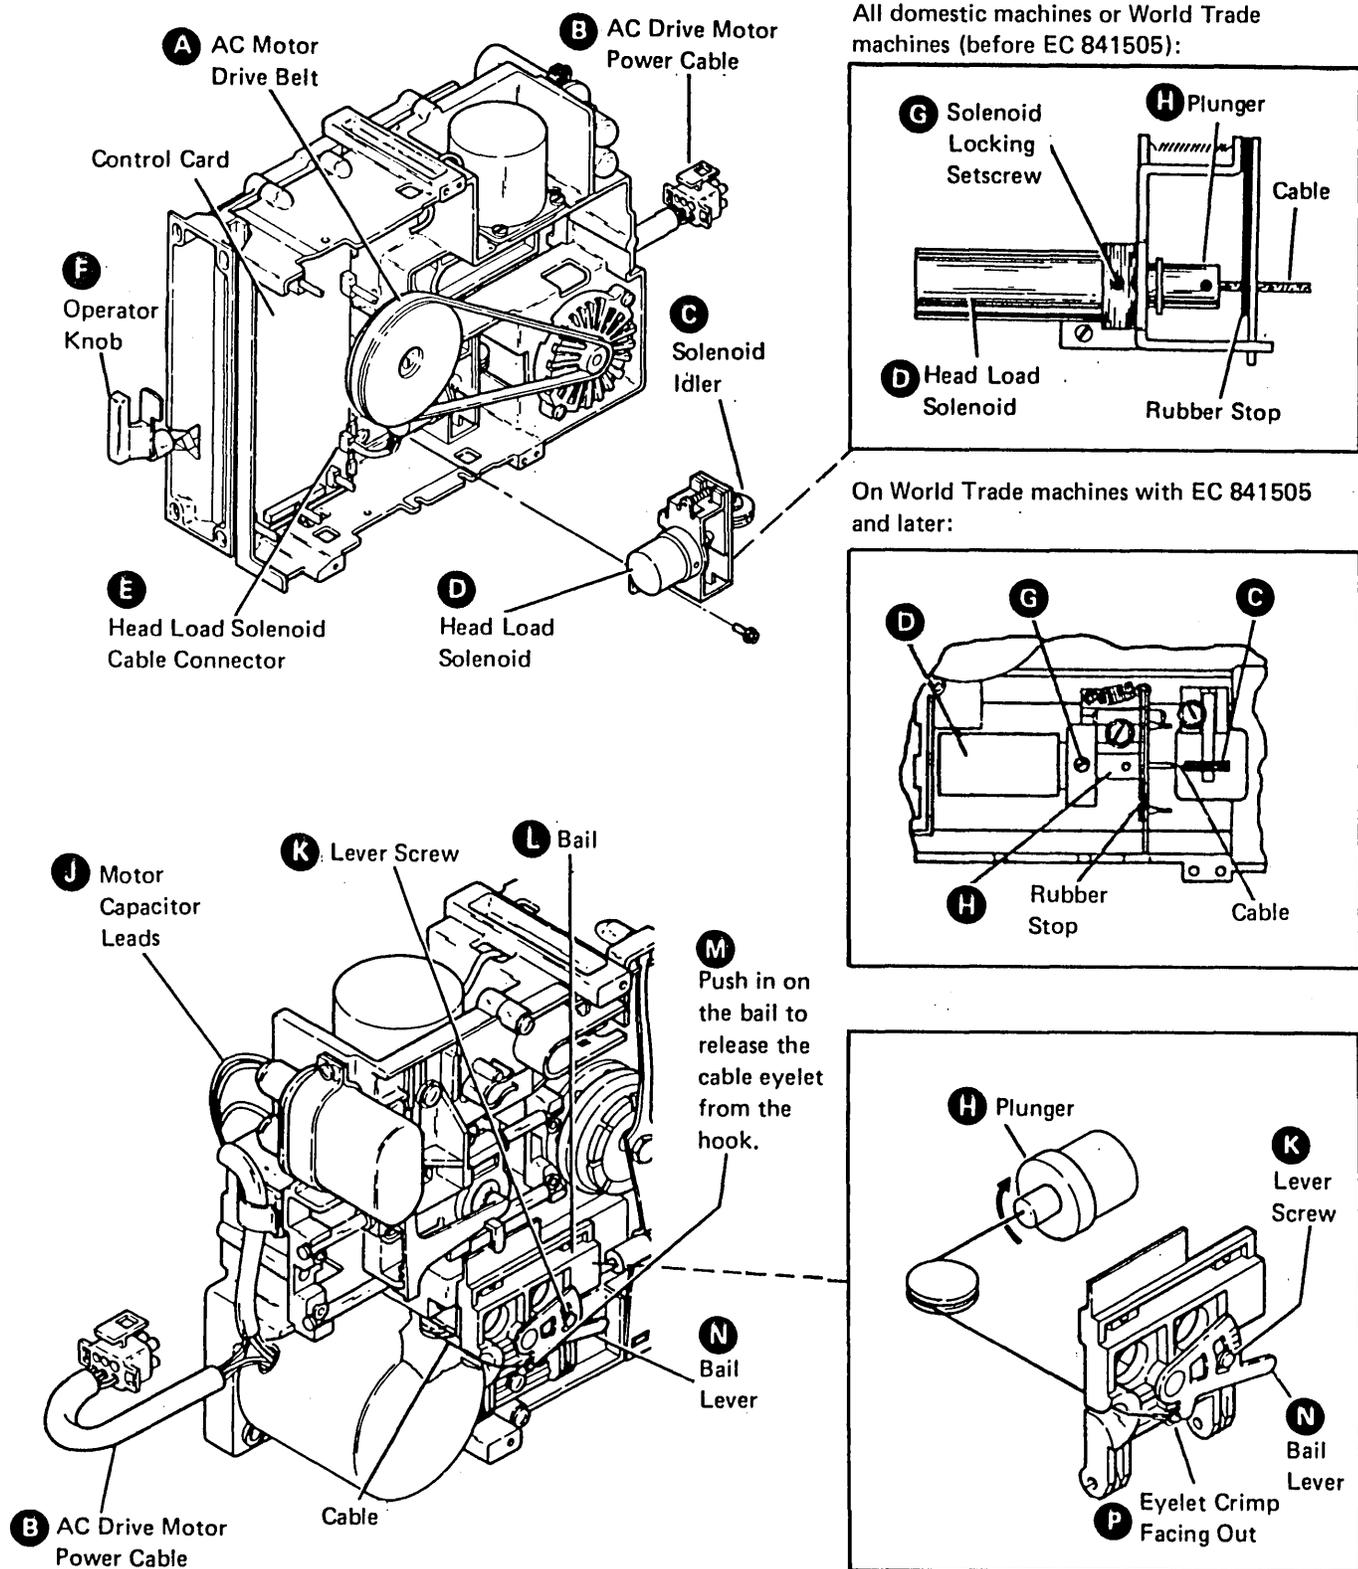

Figure F-29. Bail Removal
F.3.3.5 Bail Removal (Figure F-29)
F.3.3.6 Bail Replacement (Figure F-29)